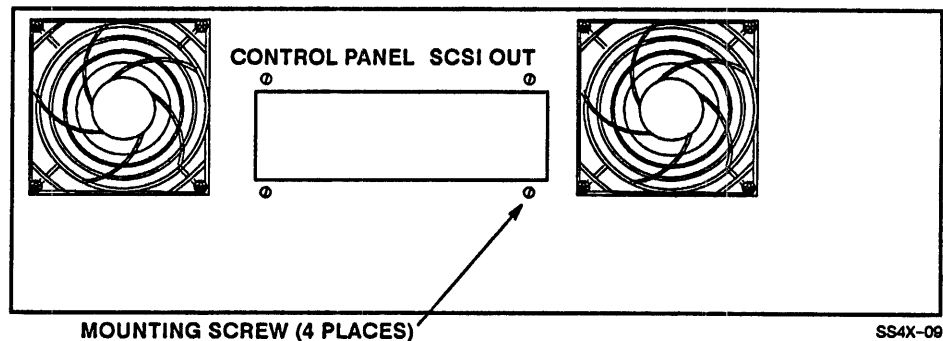

Figure 4-6. The Mounting Screws on the Rear Connector Mounting Plate
3. Remove the four screws from the rear connector mounting plate (see Figure 4-6).